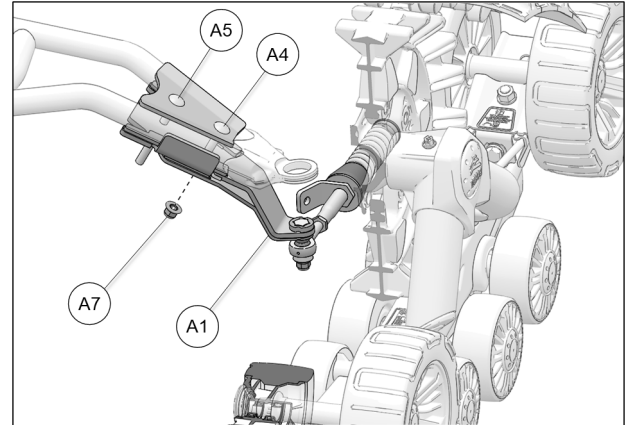

Fig. 21
12. Work bottom part (A1) of anchor bracket under suspension arm and in position so as to be able to insert the carriage bolts (A4-A5) through. Thread nut (A7) on M10x70mm carriage bolt (A4). Torque assembly to 50 N•m [37 lb•ft]. See Fig. 21